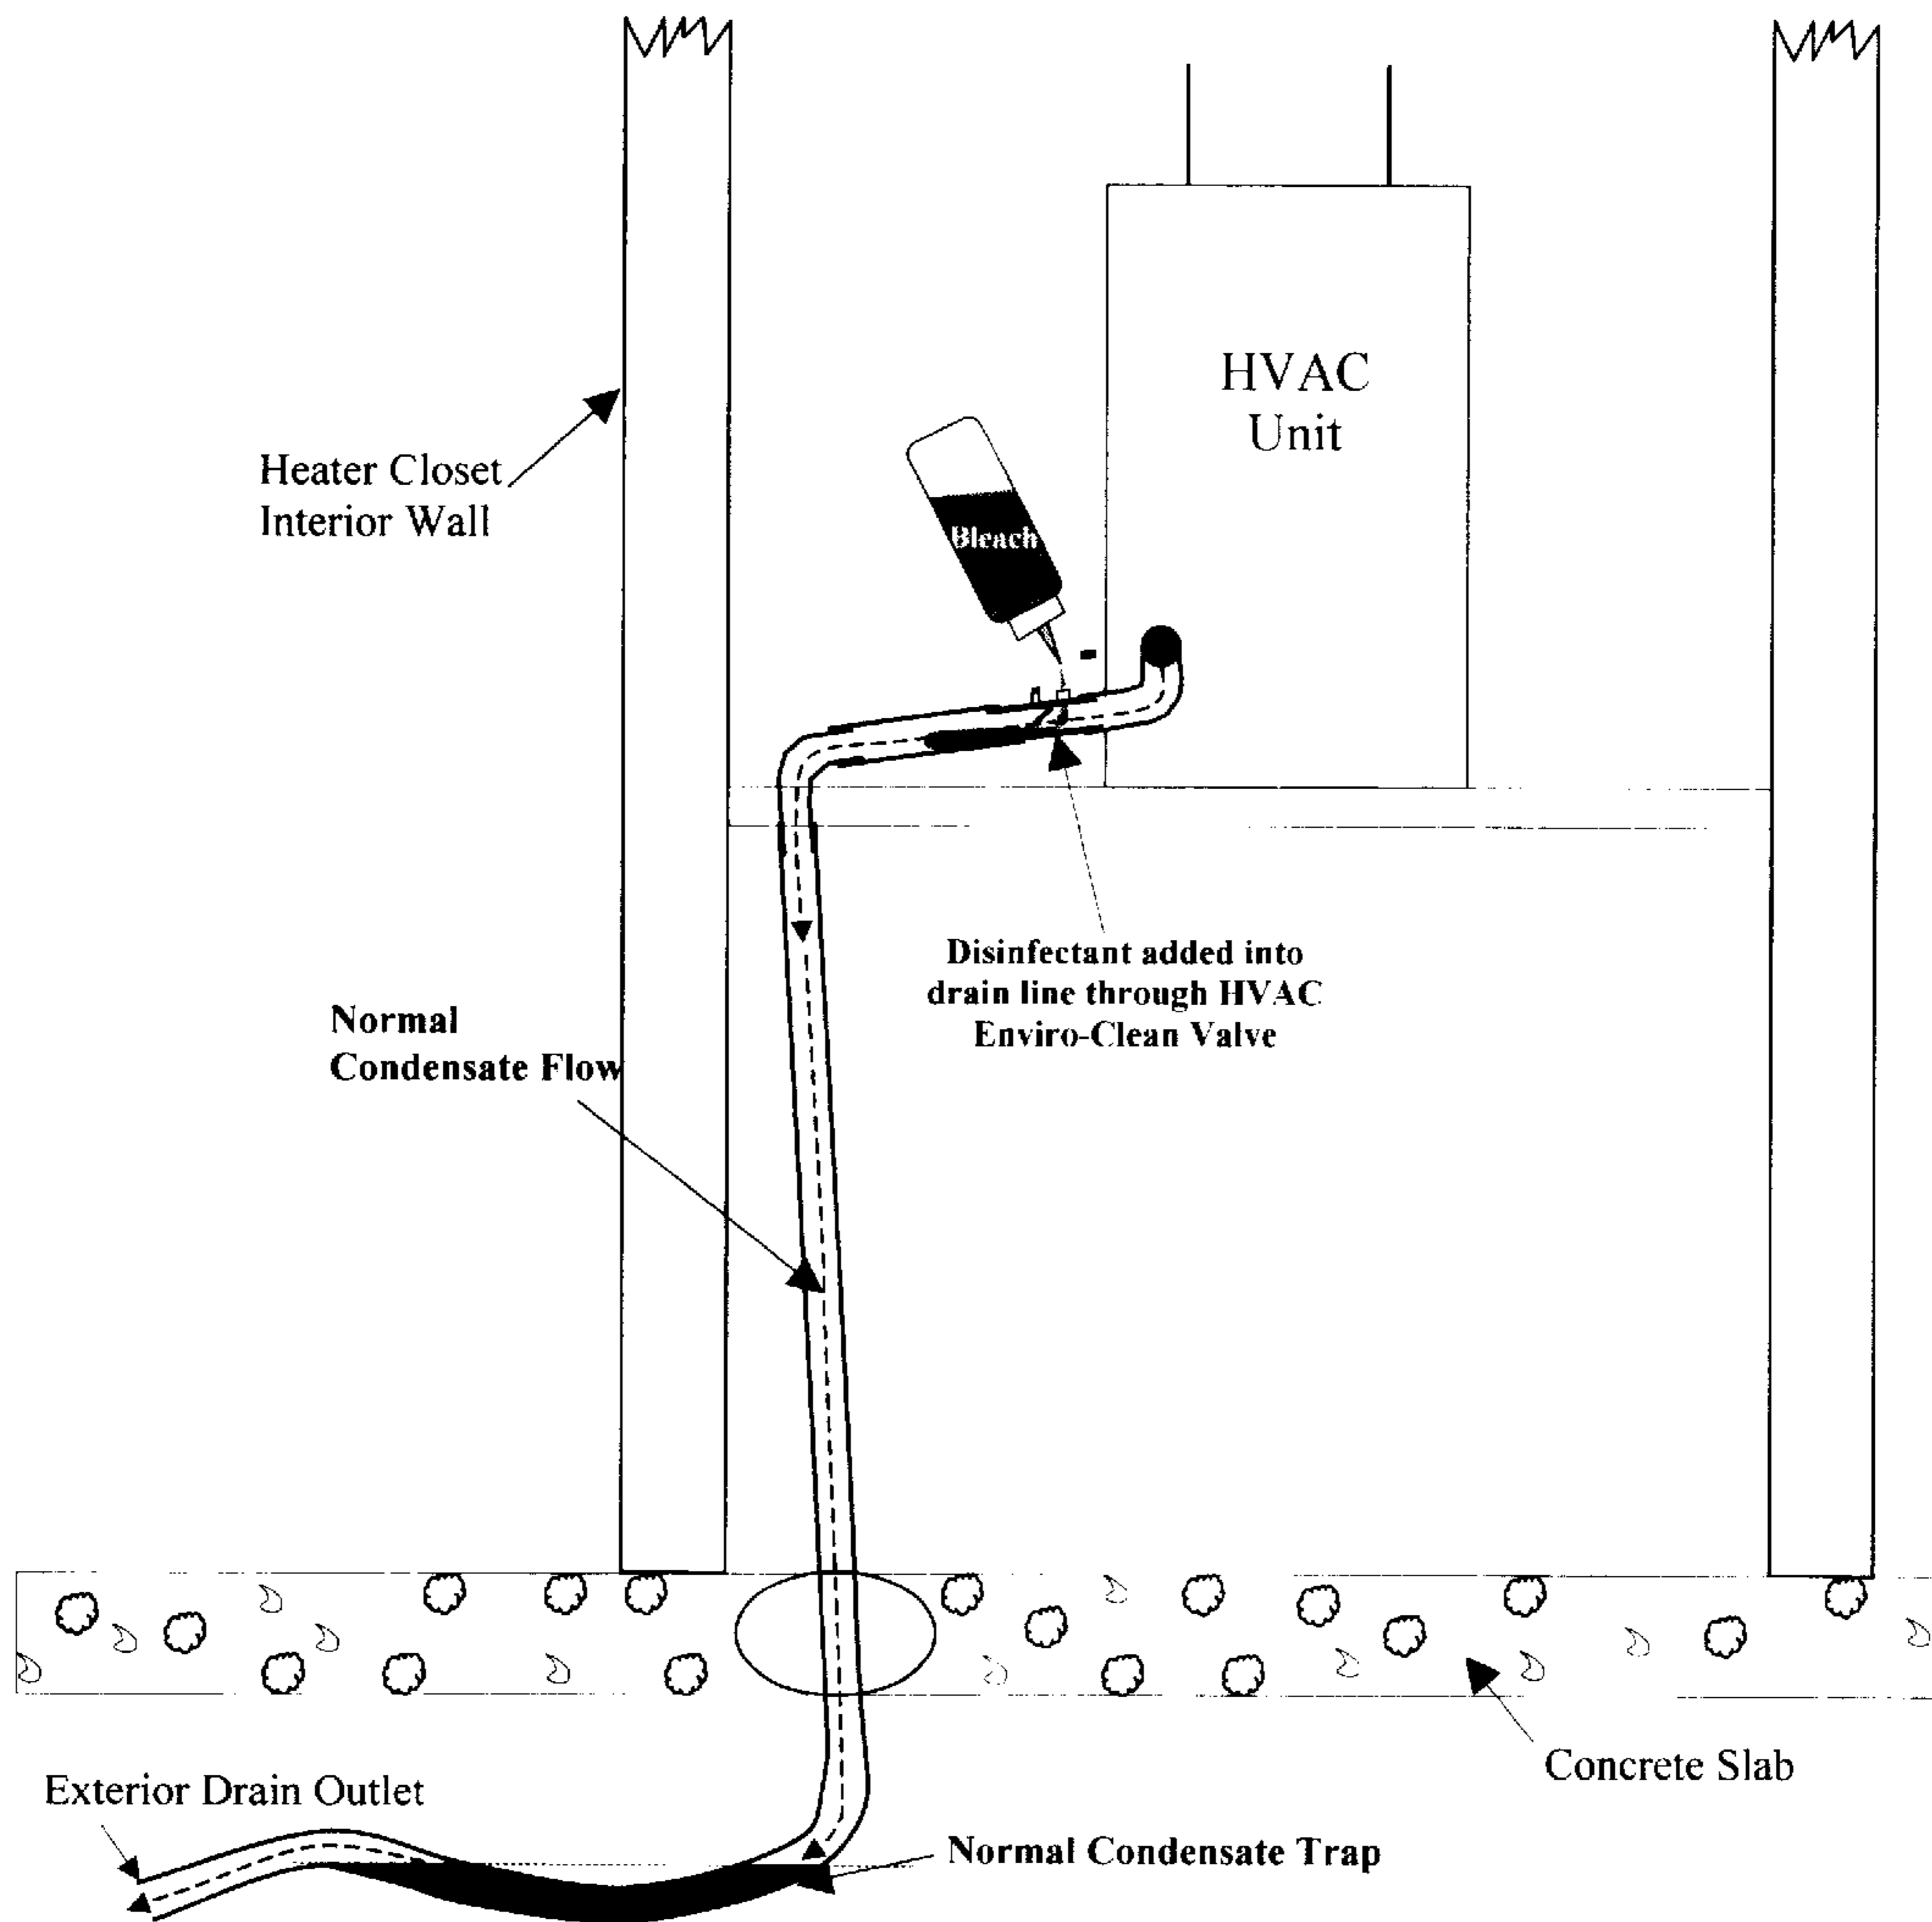

FIG. 9: INTRODUCTION OF DISINFECTANT: Disinfectant input into condensate drain line through HVAC Enviro-Clean Valve.
9. FIG. 9: Disinfectant Input Through Valve